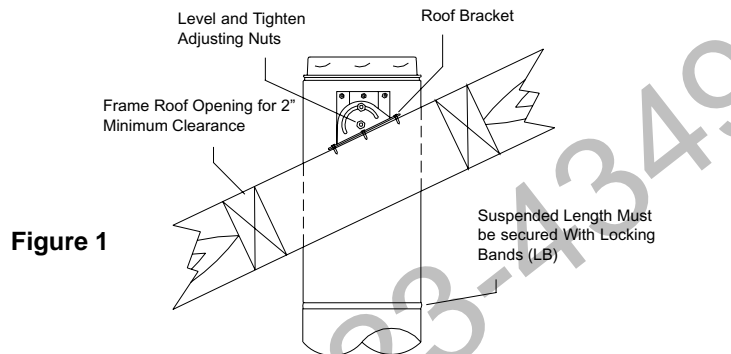
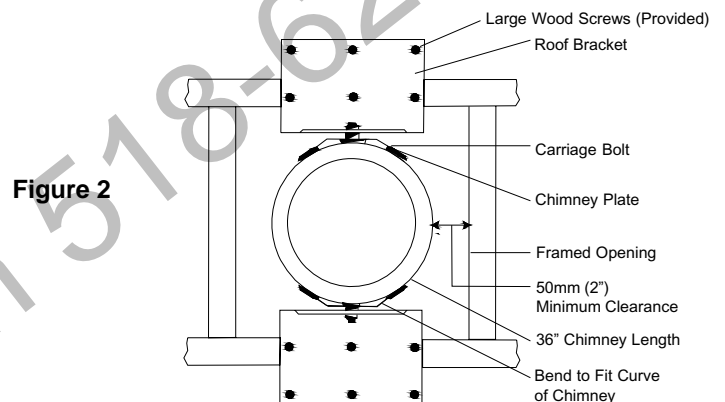

Figure 1
Figure 2
1. Cut an opening in the roof and frame a rectangular roof opening to provide a 50mm (2") minimum clearance from combustibles (see Figures 1 through 3).
2. Bend both chimney plates at vertical slots to fit outside curvature of a 36" chimney Length (see Figure 2).
3. Determine the chimney plate position on the chimney casing (see Figure 1).
4. Install two (2) carriage bolt per chimney plate in square holes.
8. Adjust Roof Brackets to the roof pitch and tighten nuts. Attach to the roof with six (6) large wood screws per bracket with the innermost screws going into the rafter (see Figure 2).